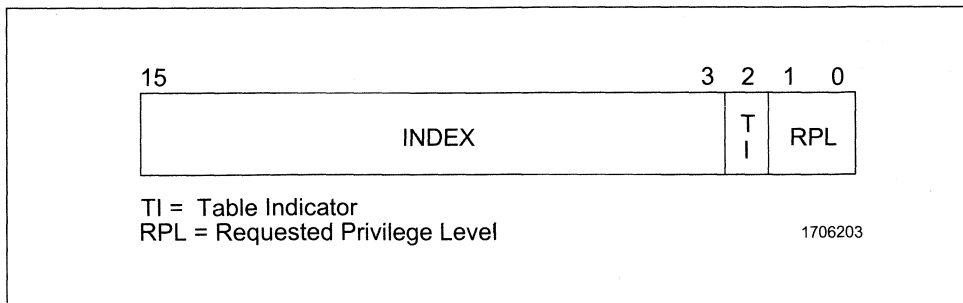

Figure 2-3. Segment Selector
In protected mode, a segment register holds a **Segment Selector** containing a 13-bit index, a Table Indicator (TI) bit, and a two-bit Requested Privilege Level (RPL) field as shown in Figure 2-3.